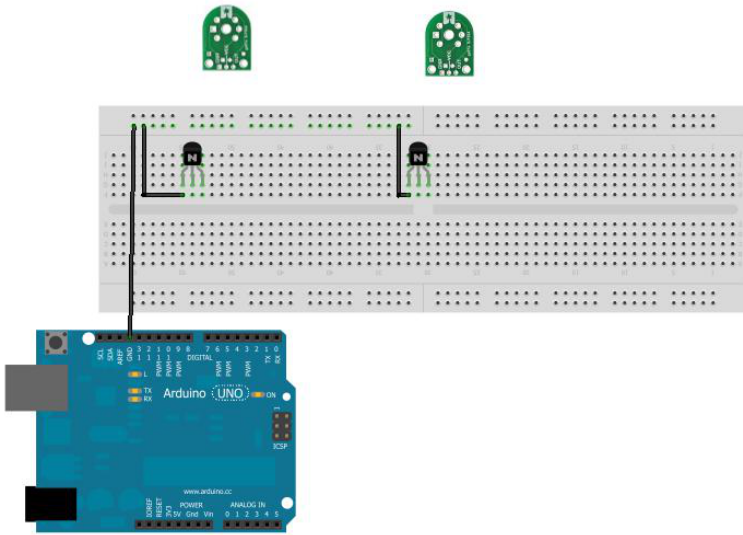

Figure 2-4. Step one. Source: these images were created with Fritzing.
1. Connect a wire from the GND pin of Arduino to the GND rail of the breadboard. Connect the GND rail of the breadboard to the EMITTER pin of the transistor (Figure 2-4).